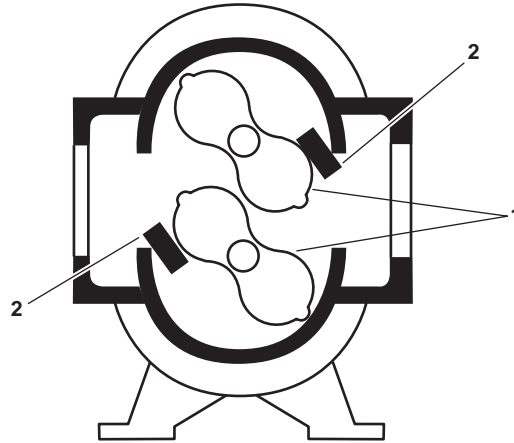

Figure 2. Impeller Removal
9. Wedge the impellers (figure 2, item 1) with blocks of hardwood (figure 2, item 2) to keep them from turning during disassembly.
14. Remove the blocks of hardwood (figure 2, item 2) from the impellers (figure 2, item 1).